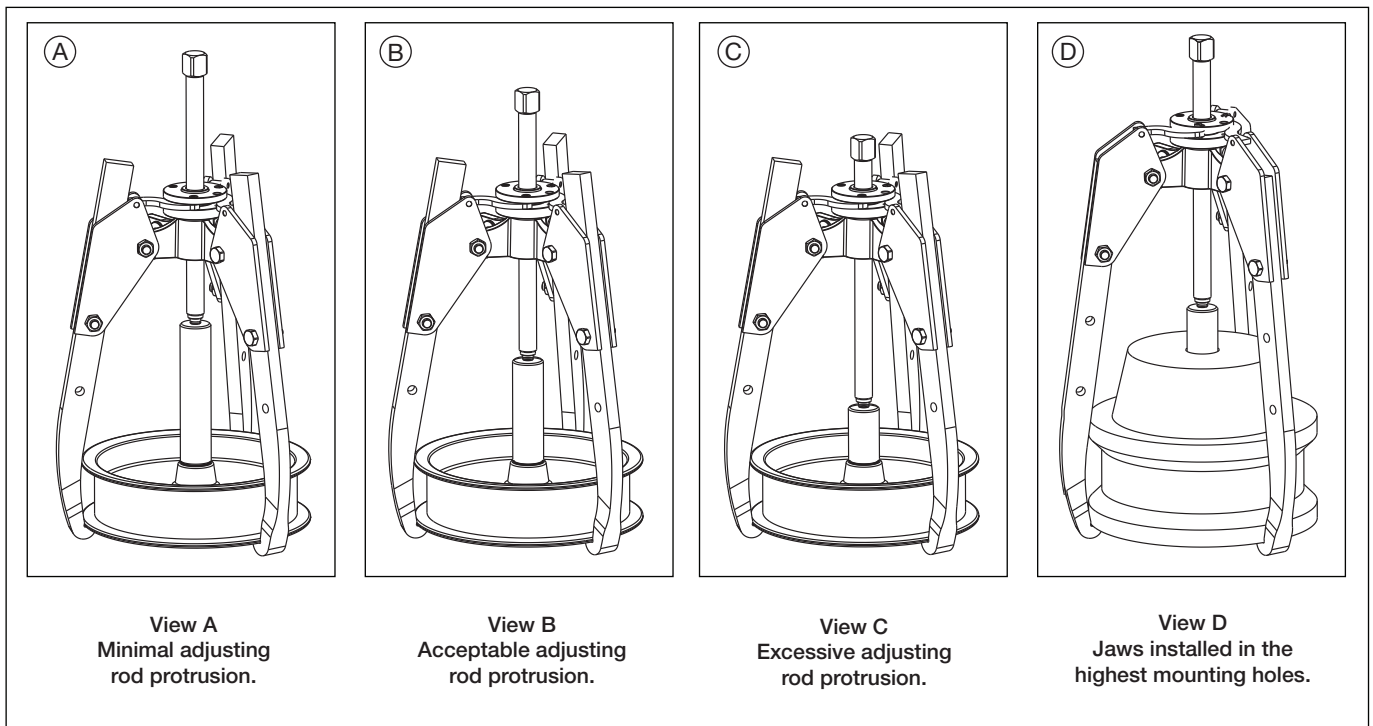

Figure 6, Jaw Mounting Positions and Adjusting Rod Height
- As the adjusting rod is turned in the clockwise direction, it protrudes an increased distance below the puller body. The length of the rod that is under load increases, and there is a greater chance that the rod will become bent during puller operation. See Figure 6, Views A, B and C.
- Install the jaws using the highest set of mounting holes only if it is necessary to provide additional clearance for large components. See Figure 6, View D.